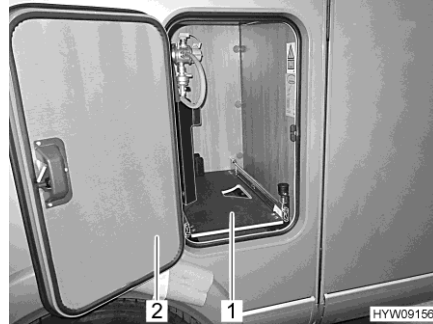

Fig. 89 Gas bottle compartment pull-out
- Open flap (Fig. 89,2) for the gas bottle compartment.
- Pull out the gas bottle compartment pull-out (Fig. 89,1) until the knob engages again. Now, the gas bottle compartment pull-out is locked in this position.